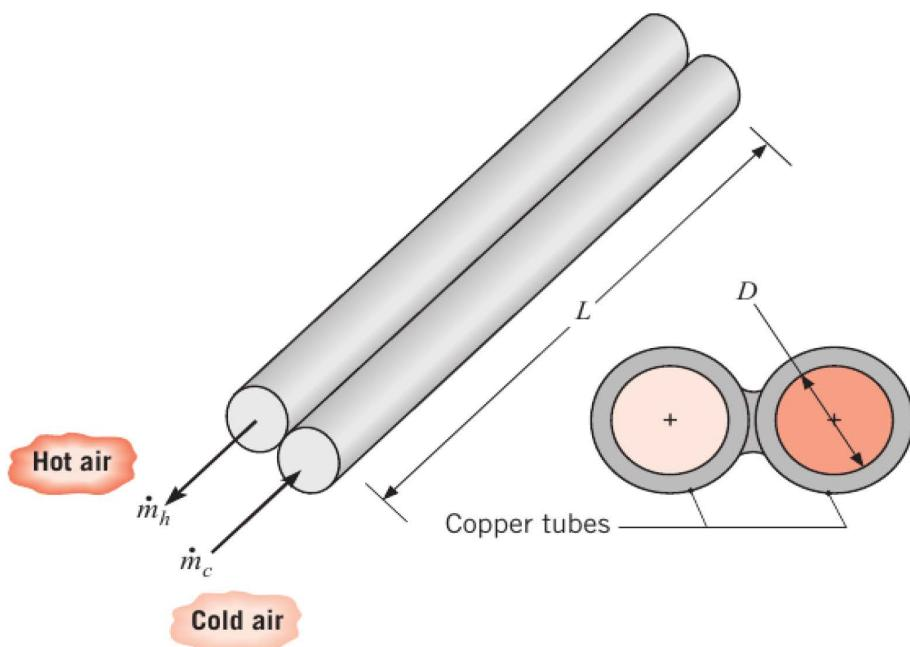

Figure 22: Twin-tube counterflow heat exchanger.
- a) A twin-tube counterflow heat exchanger (Fig. 22) operates with air flow rates of  $0.003 \text{ kg s}^{-1}$  for both hot and cold streams. The cold stream enters the heat exchanger at  $280 \text{ K}$  and must be heated to  $340 \text{ K}$  using hot air that enters the domain at  $360 \text{ K}$ . The average pressure of the airstreams is 1 atm and the maximum allowable pressure drop for the cold airstream is of 10 kPa. The tube walls may be assumed to act as fins, each with an efficiency of 100%.